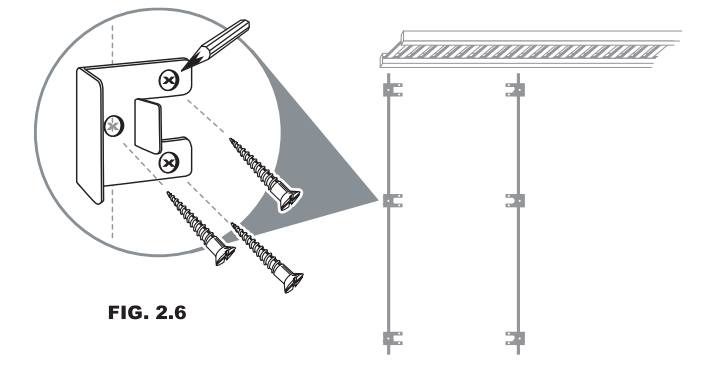

FIG. 2.6
- Using the marked locations on vertical lines, select Tower Bracket and center the middle hole at location, level bracket and mark hole positions. (Fig. 2.6)
- Install Tower bracket using #8 1-1/2" screw. Use supplied plastic wall anchors if no stud is available (Fig. 2.6)